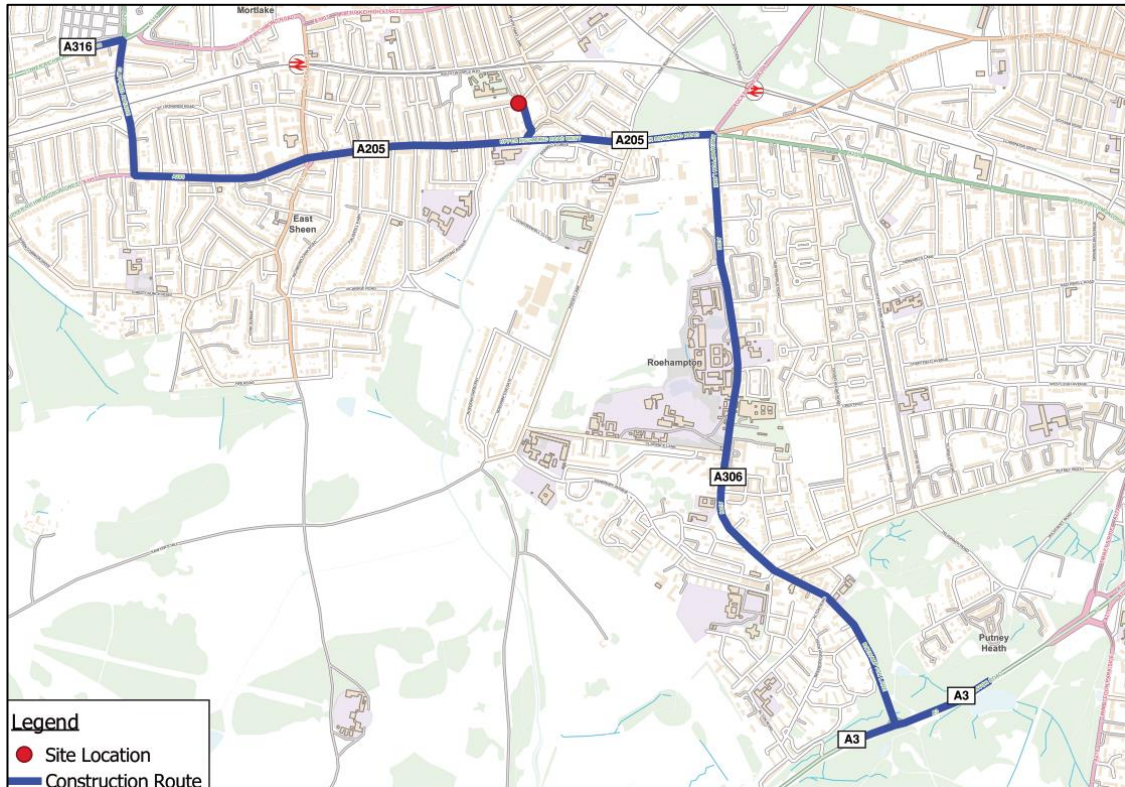

Figure 4.1: Construction Traffic Route
- 4.10 All vehicles will be required to telephone ahead to the full time Site Manager. A plan showing the route construction vehicles will take to the Application Site can be seen below in Figure 4.1.
- 5.3 Figure 4.1 above demonstrates the construction route. Construction vehicles will arrive at the site from either the north or the south. From the south, construction vehicles will travel along the A3 (Kingston Road) and turn onto the A306 (Roehampton Lane) and continue north until the junction of the A306 and the A205 where construction vehicles will turn left onto the A205 (Upper Richmond Road West). Construction vehicle will then use the west access of Priests Bridge, due to it being a one way road, where they will then turn left onto Fitzgerald Avenue until the site is reached.